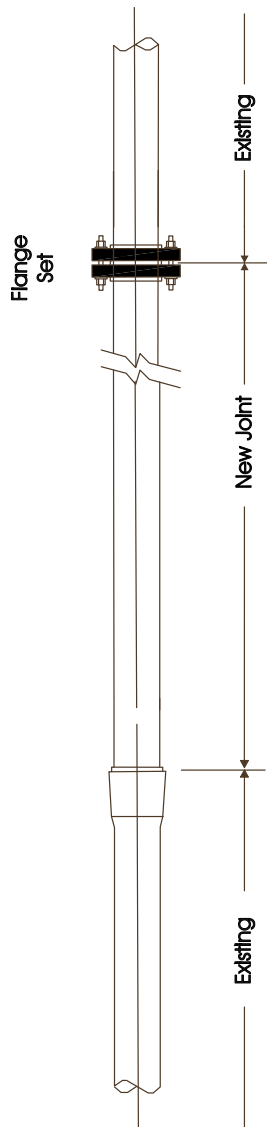

Figure 17 - Method 1 Repair Joint
- Reference Figure 17 and 18.
Star Aliphatic Amine Line Pipe (Figure 17)